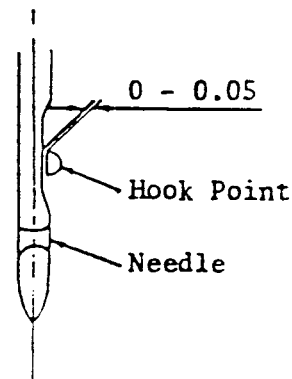

Fig. 3
3. Be sure the clearance between needle and hook point is 0 - 0.05 mm (Fig. 3) regardless of left, center, or right needle positions. Excessive clearance may result in skip stitching. Adjustment should be made in the same way as explained in paragraph A, "TO TIME THE ROTATING HOOK".